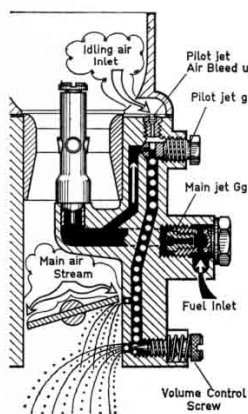

Fig. 16 Idling with mixture control
A. Idling with Mixture Control (Fig. 16)